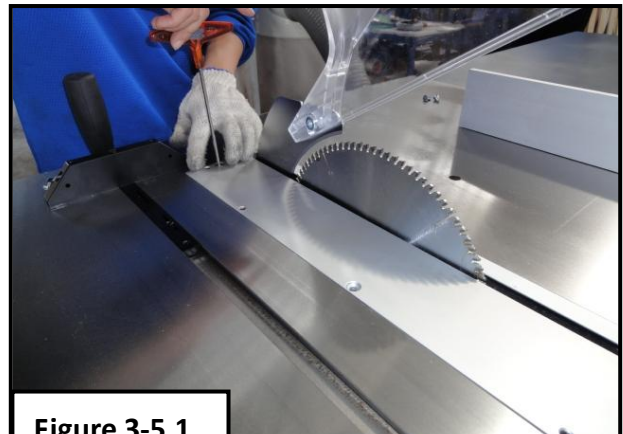

Figure 3-5.1
3. Push the saw guard up and loosen the fixed bolts. Remove the throat plate.(Fig.3-5.1 & 3-5.2)
3. Push the saw guard up and. Take off the throat plate.(Fig.3-5.1 & 3-5.2)